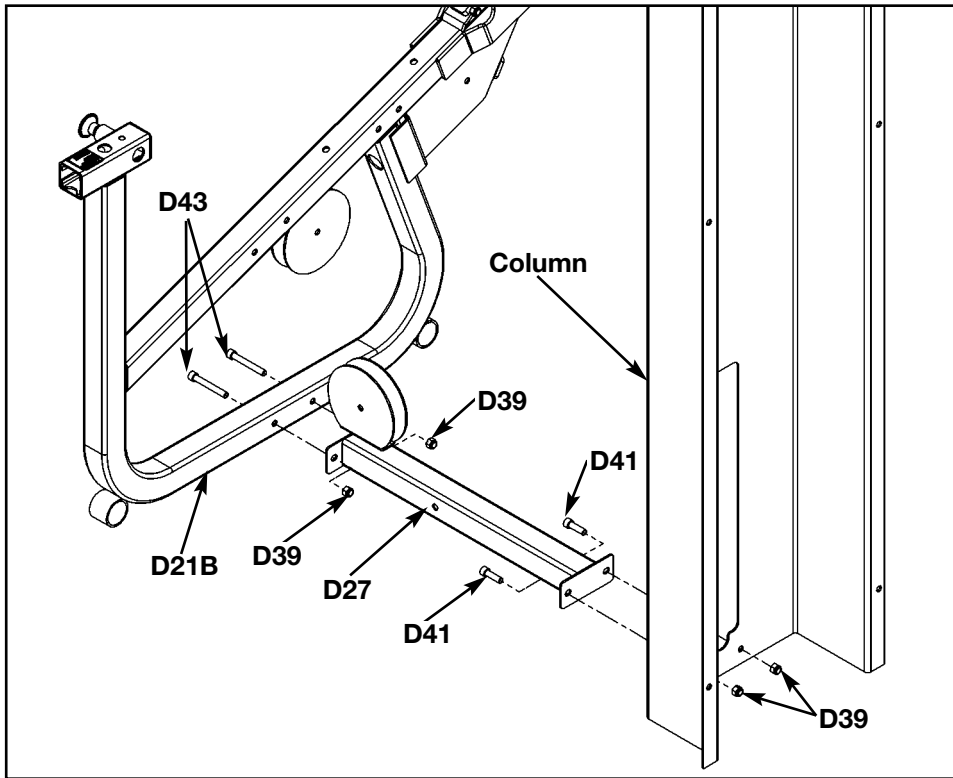

Figure 6
**3. Assemble leg and seat frame to column** (see steps 3A - 3D and Figure 6).